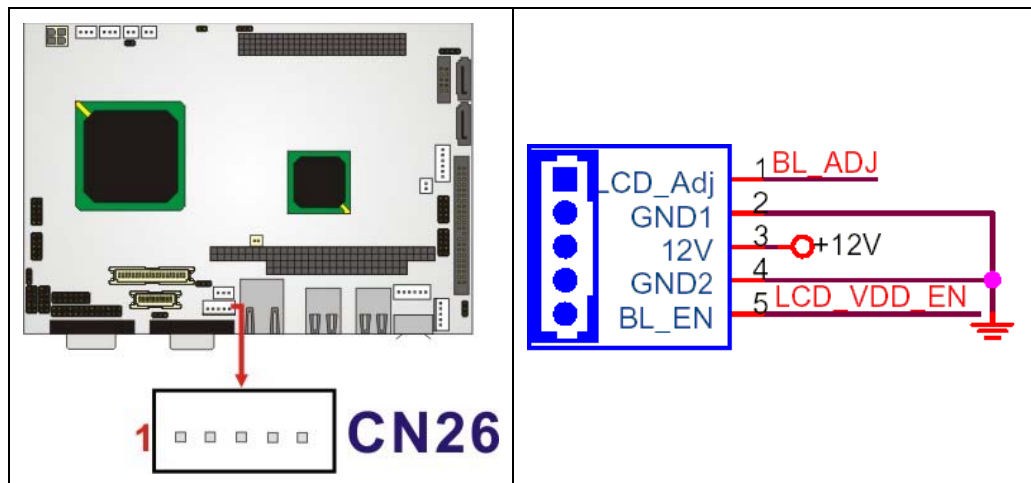

Figure 4-13: CN26 Connector Location
- CN Location:** See Figure 4-13